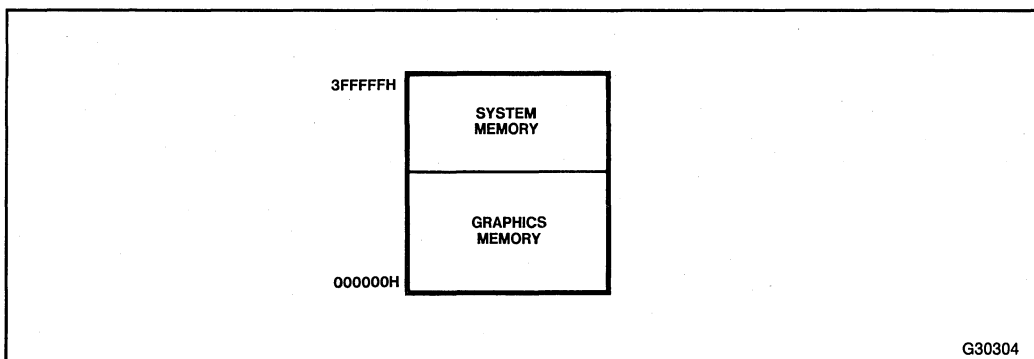

Figure 5-8. 82786 Viewpoint of Graphics Memory Map
The memory maps for the 82786 and the CPU can differ. A memory map from the viewpoint of the 82786 is shown in Figure 5-8. The Graphics Processor (GP) and Display Processor (DP) can access graphics memory using a 22-bit address which allows access to the full 4 MB address range of the 82786. Both processors can access memory only; neither can make I/O accesses.